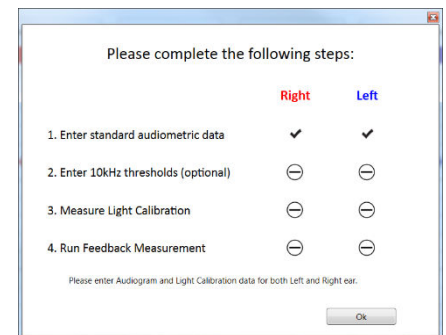

Figure 21: Fitting Data Status window
- c. A Fitting Data Status window will appear (Figure 21). Select “Ok” and ELF will open to the Initial Fit screen and enter Calibration Mode.